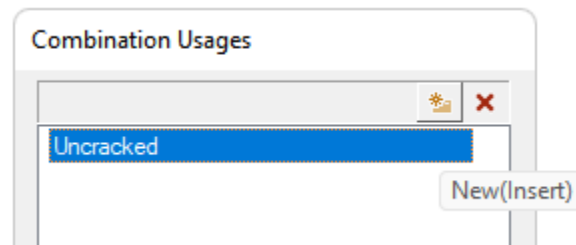

FIGURE 12-1
- Click the “+” sign next to *Uncracked* to edit the usage cases. This will open the *Combination Usages* window as shown in **FIGURE 12-1**. The default usage case for any ADAPT-Builder model is *Uncracked*. This usage case cannot be removed and has values of 1.0 set for all options. This assumes an uncracked, linear-elastic state.
- Click the **New (Insert)** icon as shown in **FIGURE 12-1**.